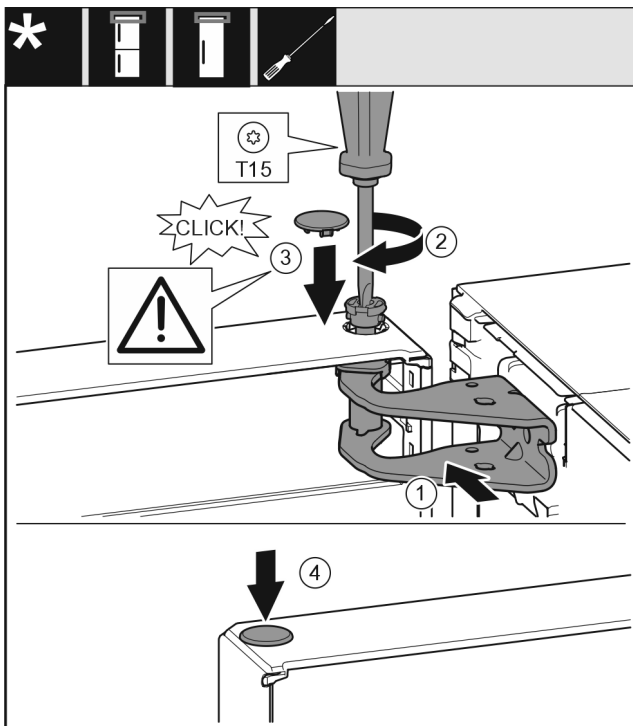

Fig. 36
- ▶ Align the top door with the opening in the swap bearing block Fig. 36 (1).
- ▶ Insert the bolt Fig. 36 (2) and use screwdriver to tighten it.
- ▶ Insert the cover Fig. 36 (3).
- ▶ Check that the cover Fig. 36 (3) is resting on the door.
- ▶ Insert the cover Fig. 36 (4).